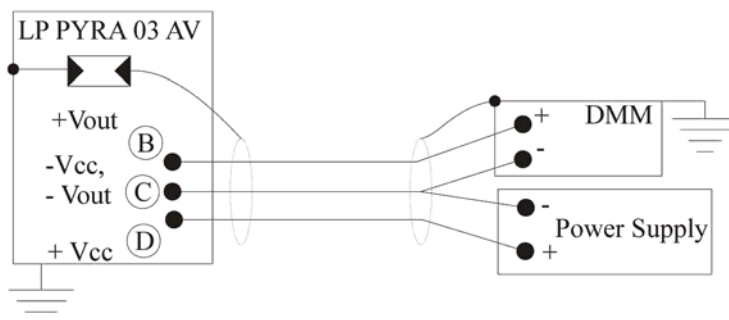

Fig. 6
- LP PYRA 03 AV is to be connected to a DMM and a power supply as show below (Figure 6). To read the signal, the load resistance must be $\geq 100k\Omega$